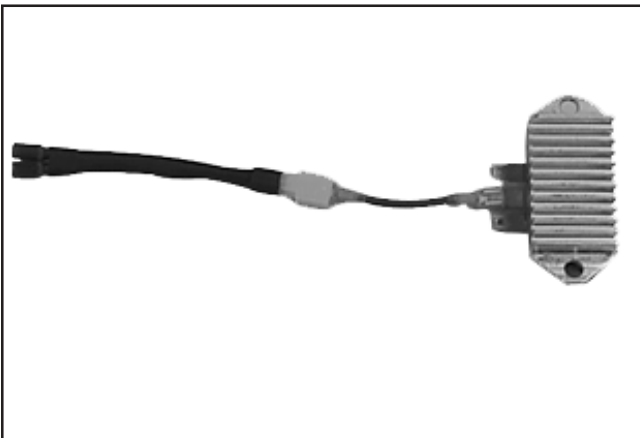

Figure 8-12.
- Connect the single lead adapter in between the B+ (center) terminal of rectifier-regulator being tested and the squared single end of the tandem adapter lead. See Figure 8-12.